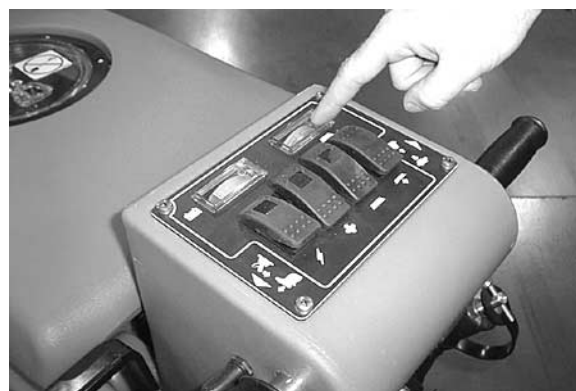

FIG. 15
- Once machine begins to move, check the needle position of the brush pressure meter. Depress brush pressure switch to adjust brush pressure. Never operate machine in the red zone (Figure 15).